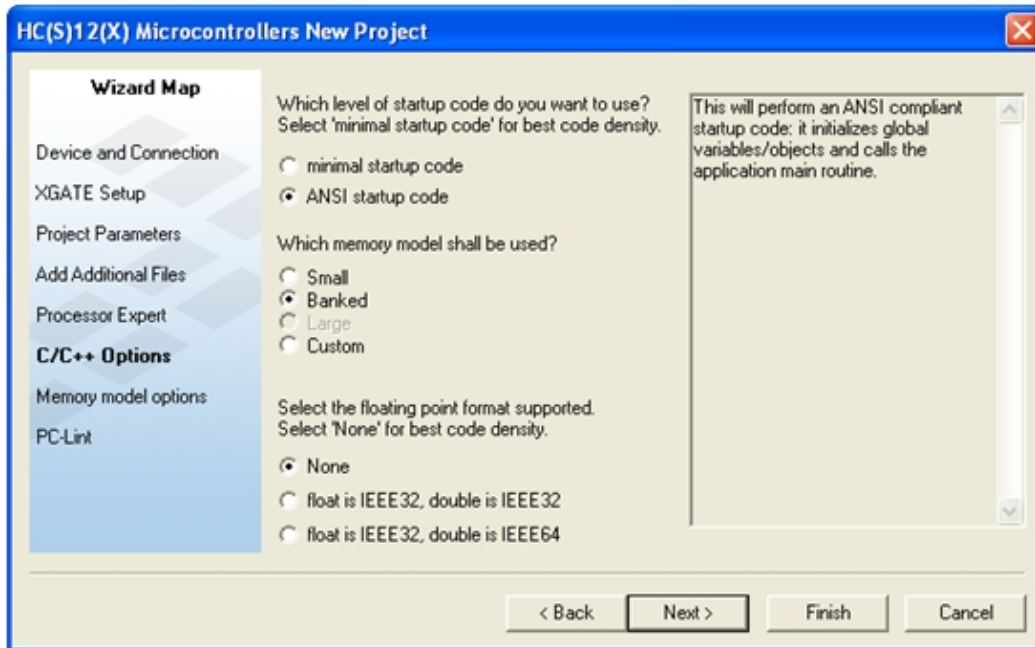

Figure 3-7 C/C++ Options Screen
11. Click “Next” to continue. The **C/C++ Options** screen appears. As shown as **Figure 3-7**.
12. The C/C++ options screen lets you select the level of **Startup Code** you wish to produce. Set as shown as **Figure 3-7** and click “Next” to continue.